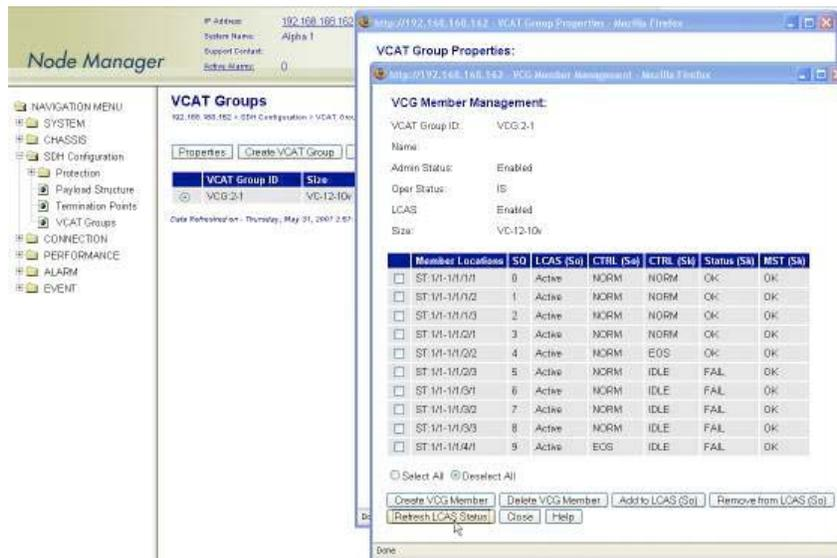

Figure 61. Completion of the Add to LCAS (So) Operation
5. Check that CTRL (So) = NORM (or EOS if a member is the last in the sequence) and MST (Sk) = OK for all new active members at the source side of the VCG (see Figure 61 on page 128).